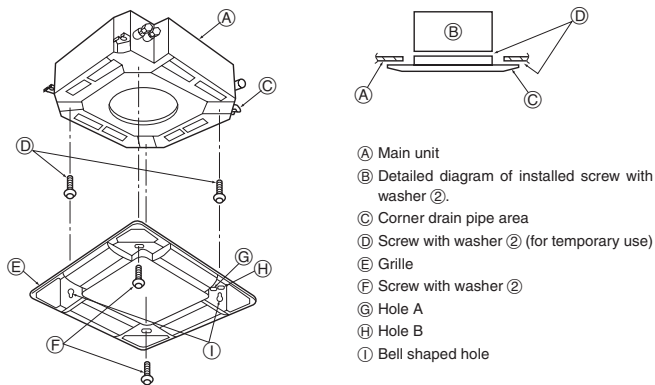

Fig. 9-6
9.4.2. Temporary installation of the grille (Fig. 9-6)